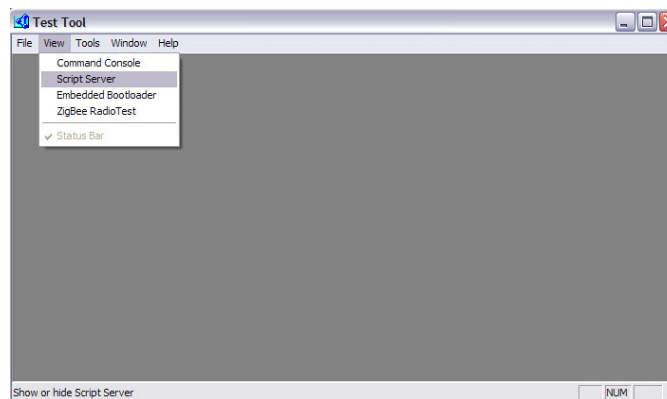

Figure 46. Launching the ScriptServer
- As shown in Figure 46, use the Test Tool main menu to open the Script Server application by clicking on View -> Script Server.